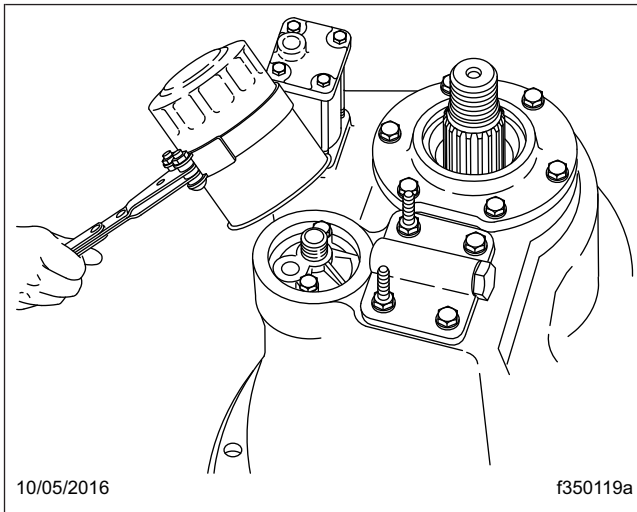

Fig. 5, Meritor Axle Oil Filter Removal
- 4.1 Remove the axle oil filter using a suitable filter strap wrench (see Fig. 5) and discard it.